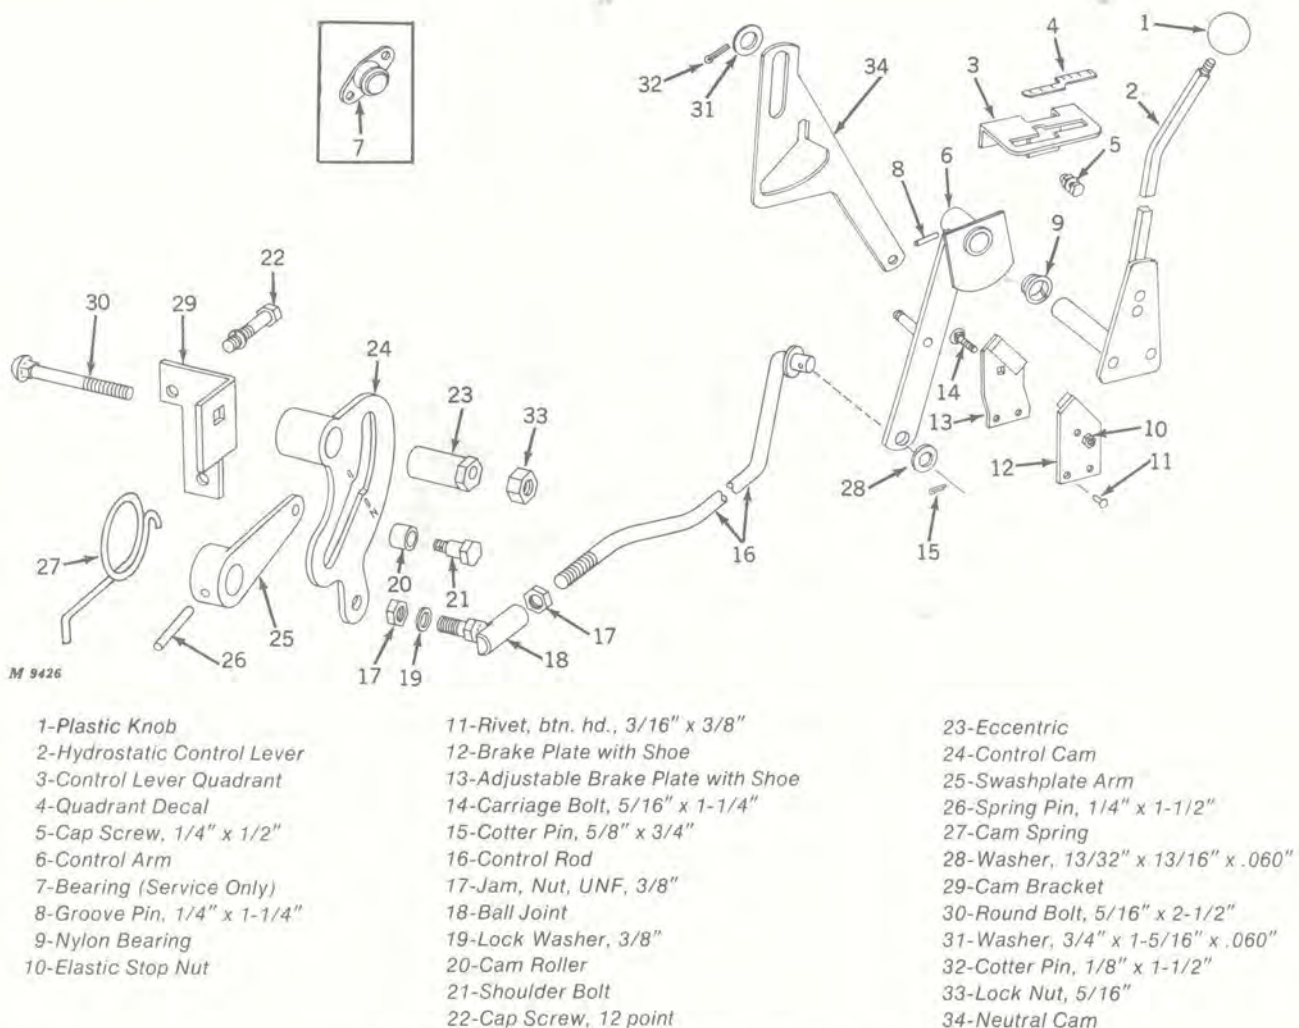

Fig. 2-Exploded View of Cam, Lever and Linkage
Remove shoulder bolt (21) and cam roller (20), Figure 2. Remove lock nut (33) and eccentric (23) from control cam (24). Remove jam nut (17) from ball joint (18).